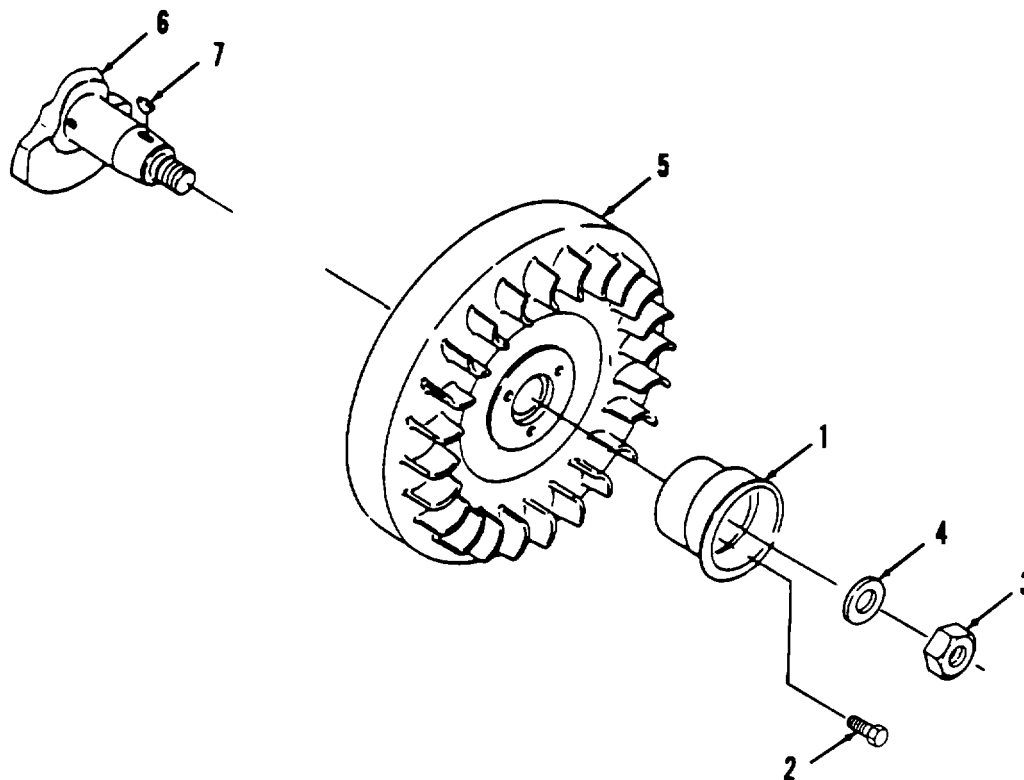

Figure 5-10. Flywheel Replacement.
a. Removal. (Refer to Figure 5-10).
- (1) Remove starter pulley (1) by removing three bolts (2).
- (2) Brace the flywheel (5) to prevent the flywheel from turning while loosening the flywheel nut (3) by inserting a pry bar through a hole in the flywheel into the depression in the crankcase.
- (3) Remove flywheel end nut (3) and washer (4) from crankshaft (6).
- (4) Using a puller, remove flywheel.